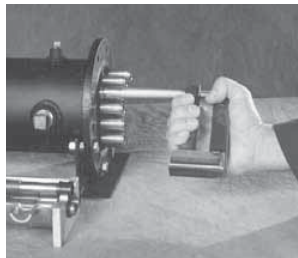

Fig. 5B Long end
6. With a slight twisting motion, push the tube tool through a long end seal until the tool's shoulder contacts the tube. Grip the tube with the tool and with a twisting motion, pull the tube through the long end seal until the short end of the tube clears the short end hole. Make sure the seal lip remains flush to the plate. Repeat for each tube (see Fig. 5B).